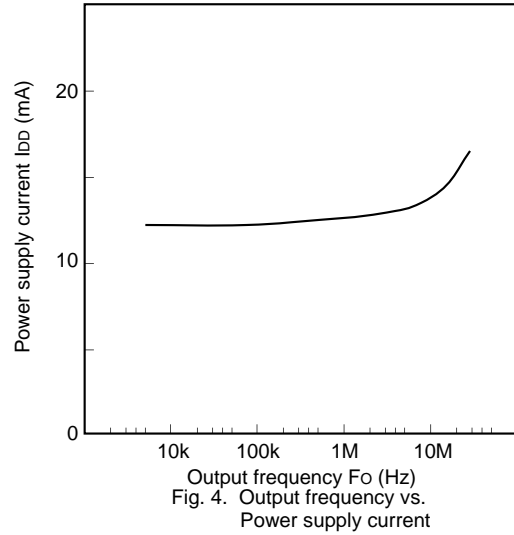

Fig. 4. Output frequency vs. Power supply current
- Fig. 4 is input data=output of incremental counter.